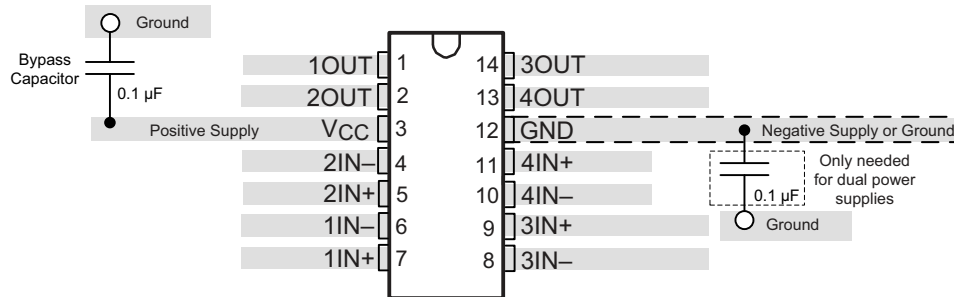

图 8-3. Comparator Board Layout
- To minimize supply noise, place a decoupling capacitor (0.1- μ F ceramic, surface-mount capacitor) as close as possible to V_S as shown in 图 8-3.